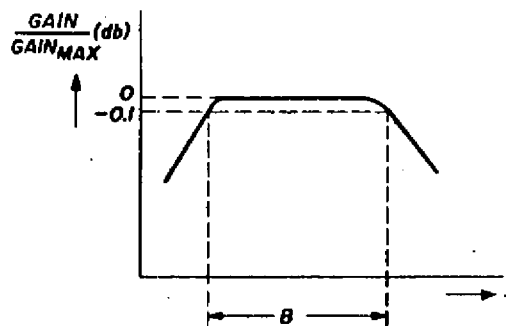

FIGURE 2. BANDWIDTH CHARACTERISTICS
- ⁷ The quoted value is the bandwidth between the 0.1 db points of the flattened response curve. See Figure 2.